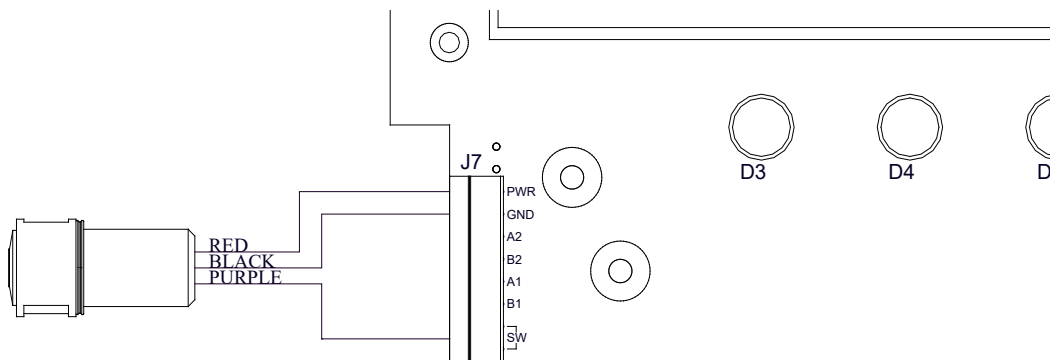

Figure 41 Teledyne Detcon C1D1 Switch Connections
- c. Connect the purple wire to the SW connection nearest the B1 terminal (Figure 41)